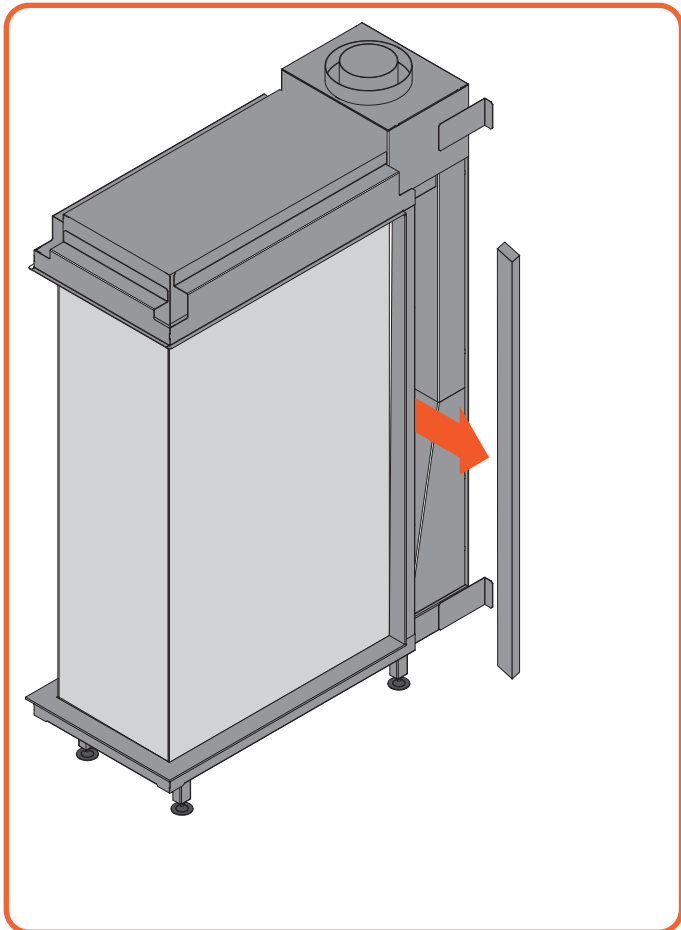
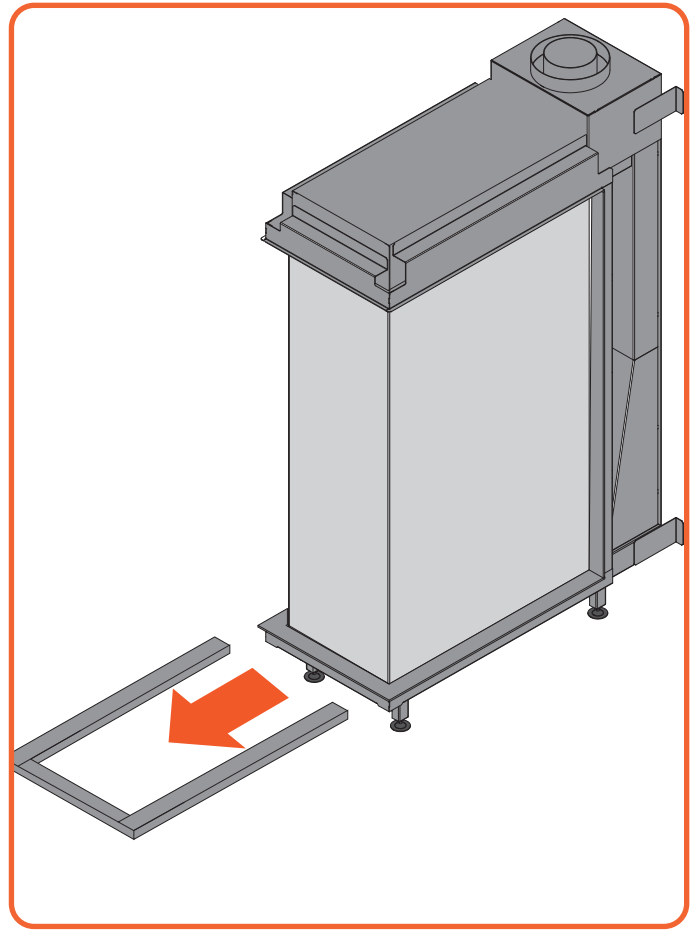

Figure 9.4 | Remove side trims
Figure 9.5 | Remove bottom trim
- Remove both the side trims and bottom trim. They are held by magnet snappers, Figure 9.4 & Figure 9.5.